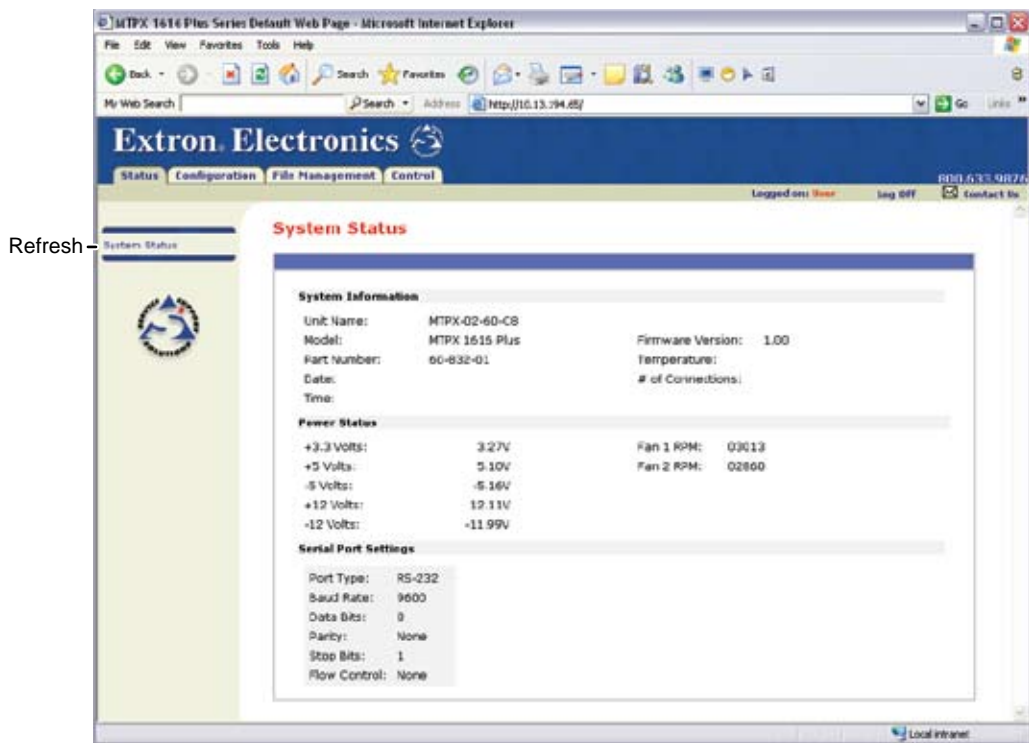

Figure 6-2 — System Status page
- c. **If neither of the above conditions is true**, the switcher downloads the factory-installed default startup page, "nortxe_index.html" (figure 6-2), also known as the System Status page.
The System Status page (figure 6-2) provides an overall view of the status of the matrix switcher, including individual voltages, and the serial port status. The System Status page is the default page that the switcher downloads when you connect to the switcher. Access the System Status page from other pages by clicking the **Status** tab.